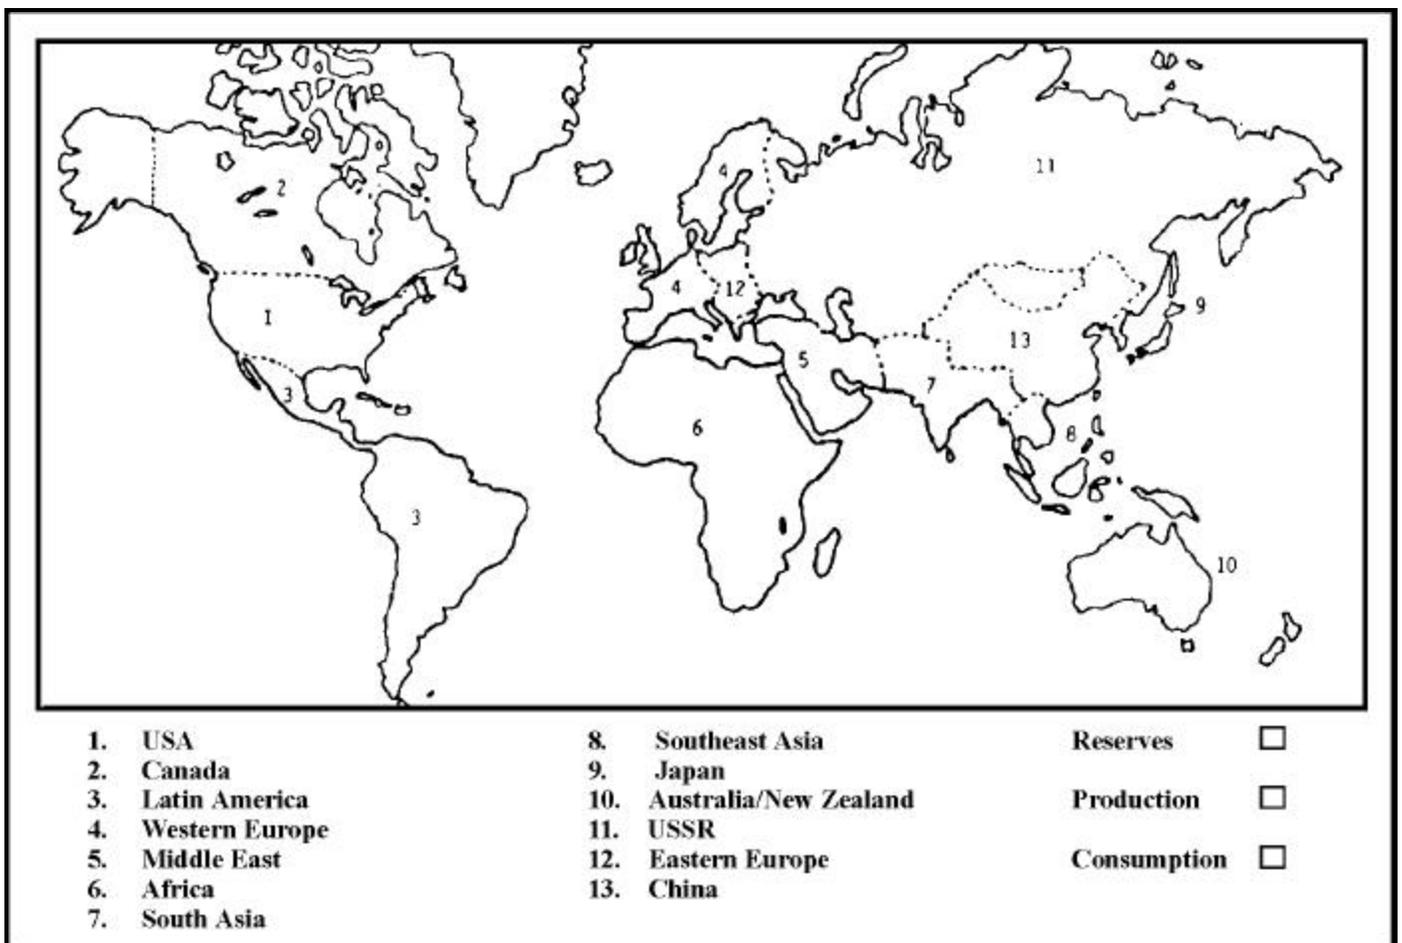

Figure 1.4 (See exercise 4)
- (1) Examine some samples of conventional light oil and heavy oil.
- (2) Use a blowtorch or Bunsen Burner to demonstrate the use of natural gas.
- (3) Discuss the advantages and disadvantages of some of the different energy sources.
- (4) Figure 1.4 is a map that divides the world into 13 major regions based on petroleum consumption, production and reserves. Petroleum consumption and production rates of each region are listed in millions of barrels per day (Table 1.1). The oil reserves are listed in billions of barrels and represent the total amount of crude oil that has been discovered and remains to be produced. All of these numbers are estimates that will change over time as known reserves are consumed, new oil fields are discovered, and production and consumption rates fluctuate.
- (5) What would be a good strategy for a country like the U.S.A. to ensure a reliable supply of oil? Should it purchase all of its oil from one source?
- (6) Break the class up into groups and have each group consult a world map and compile a list of the countries included under the areas designated in Figure 1.4 as:
- (7) Using the data in Table 1.1 (i.e., oil reserves and oil consumption rates), estimate how long the world's present oil supplies will last at today's consumption rates.